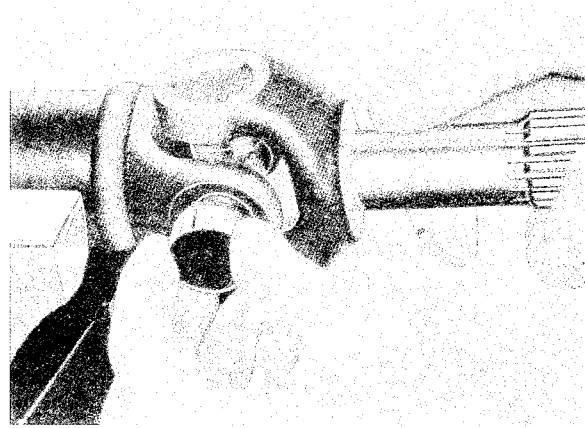

Fig. 4-127. Installing spider
2. Insert the spider in the flange yoke. Push the spider over in one direction so far that the needle bearing can be fitted on to the trunnion, see Fig. 4-127. Then press